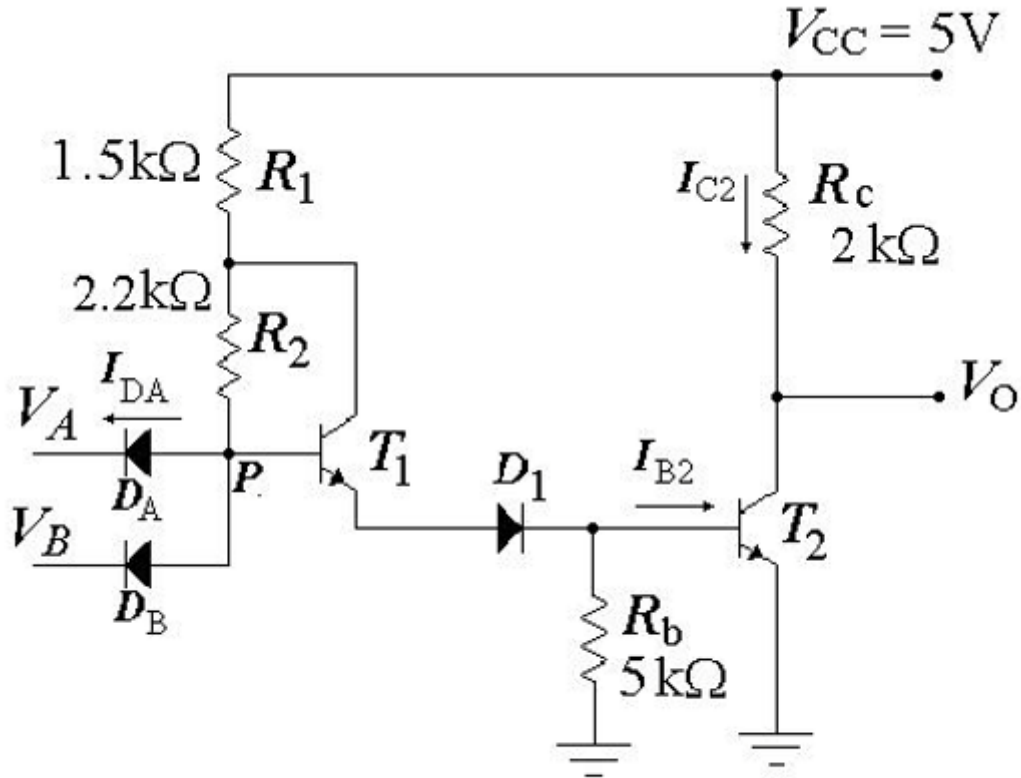

Figure 1 : Modified DTL NAND gate .
In Experiment 3, a simple DTL NAND gate was studied. That circuit is modified by replacing the diode D1 with a transistor T1 so that there is an increase in the base current of the output transistor without a corresponding increase in the current load imposed by each additional gate. Thus, the fanout of the gate is considerably increased. This circuit is shown in Figure 1.
1. Construct the circuit as shown in Figure 1. Adjust the dc supply to 5 volts.